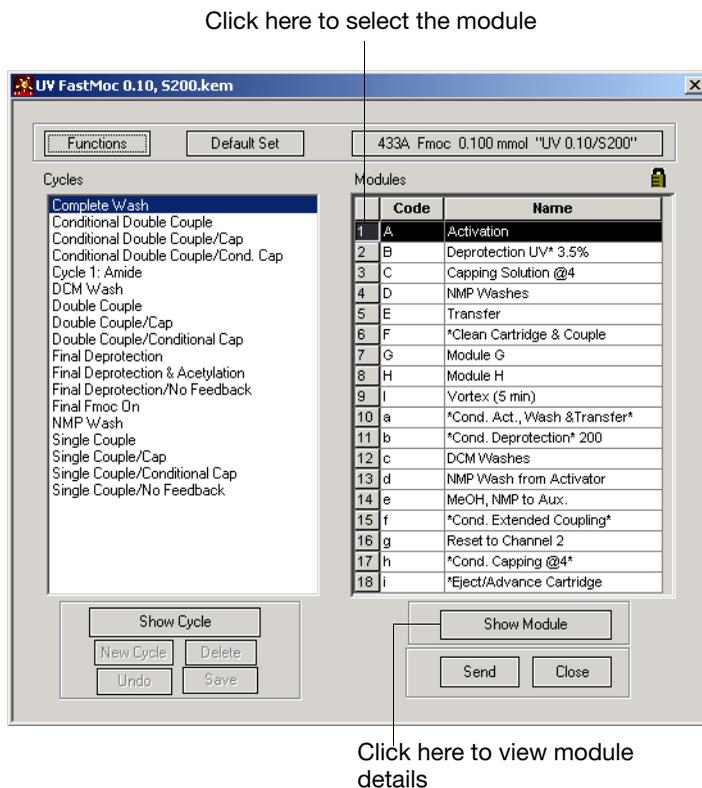

Figure 7-7 Chemistry Screen
1. In the Chemistry screen (Figure 7-7), select the module number corresponding to the module you want to change (for example, Activation), then click **Show Module**.